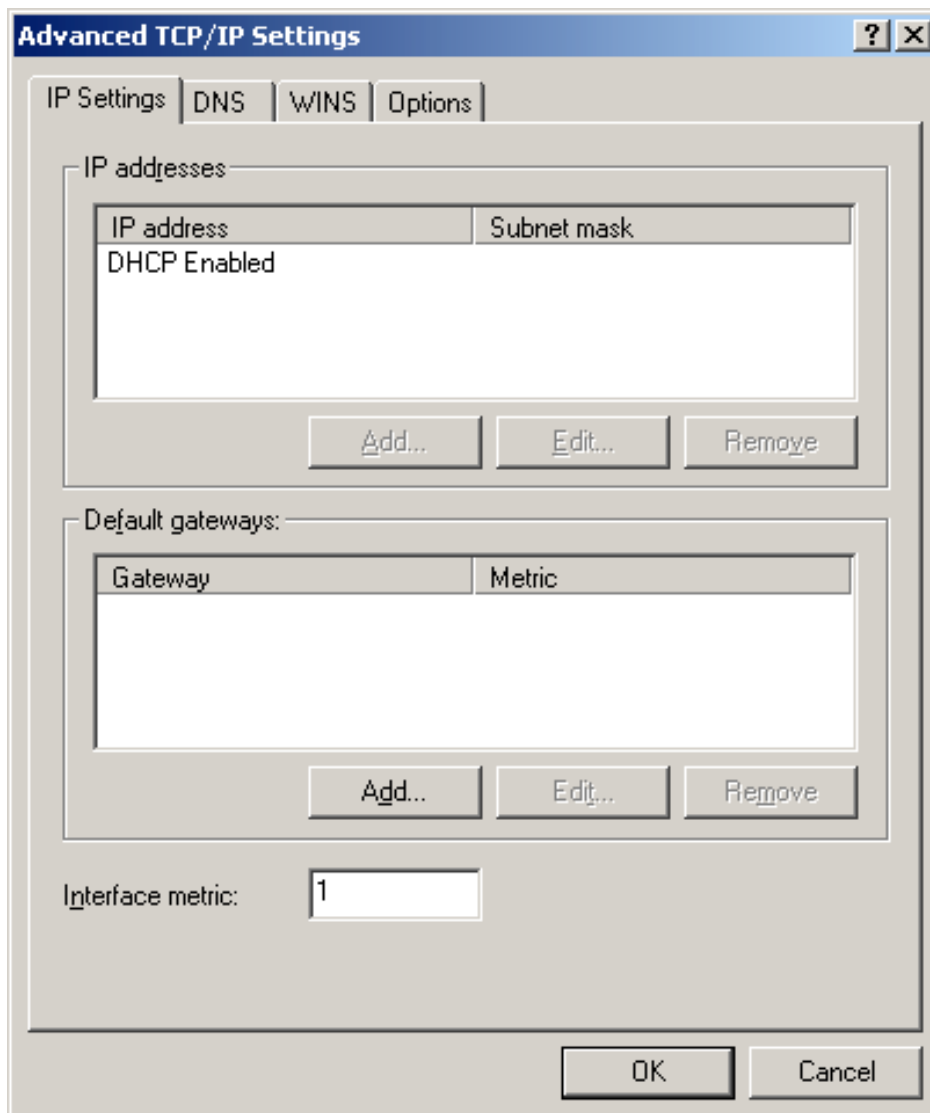

Fig. 17. Windows 2000: Advanced TCP/IP Settings Box
5. In the "Directory Properties" dialogue box (*Fig. 17*) select the directory path as it was constructed when the RDT400 Recorder was installed (*Chapter 2.2. 1*).